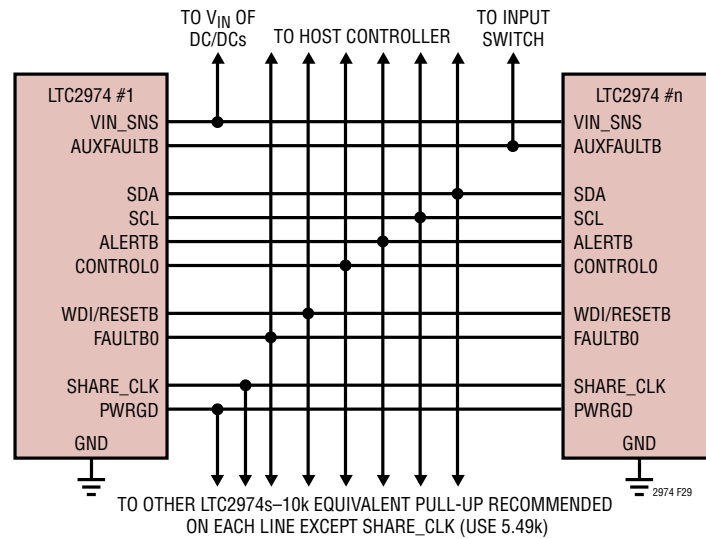
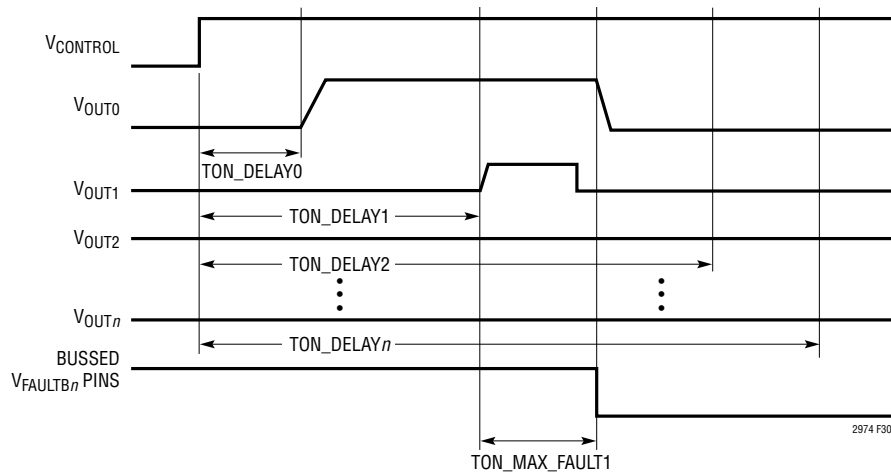

Figure 29. Typical Connections between Multiple LTC2974s
Figure 30. Aborted On-Sequence Due to Channel 1 Short
Figure 29 shows how to interconnect the pins in a typical multi-LTC2974 array.
- The FAULTB lines can be connected together to create fault dependencies. Figure 29 shows a configuration where a fault on any FAULTB will pull all others low. This is useful for arrays where it is desired to abort a startup sequence in the event any channel does not come up (see Figure 30).
- PWRGD reflects the status of the outputs that are mapped to it by the MFR_PWRGD_EN command. Figure 29 shows all the PWRGD pins connected together, but any combination may be used.